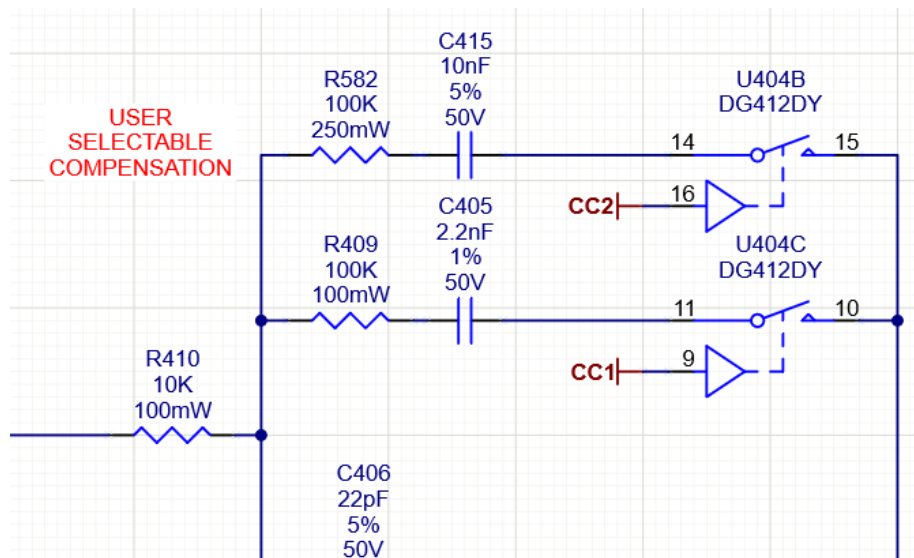

Figure 6.3 – Selectable factory-installed compensation networks
If your load inductance is between 50 μH and 500 μH , and your load resistance is less than 5 ohms, then you can likely use Compensation Network 1 for your application. If your load inductance is between 500 μH and 1.5 mH, and your load resistance is less than 5 ohms, then you can likely use Compensation Network 2 for your application. (See **Figure 6.3**). These compensation networks are enabled when Compensation Network 1 DIP switch (SW#6) or Compensation Network 2 DIP switch (SW#5) on the Master amplifier module is set to the ON (UP) position.